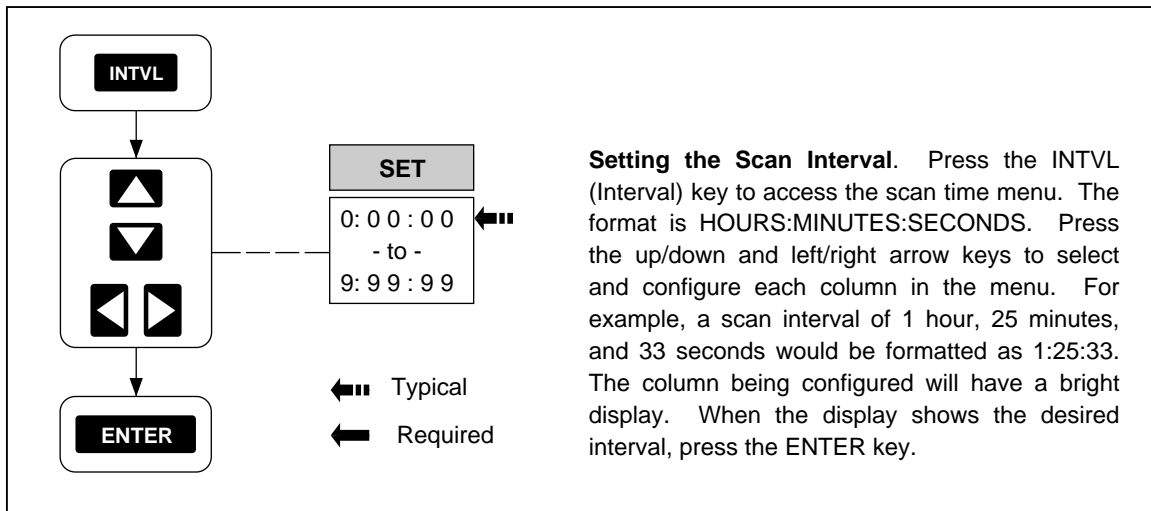
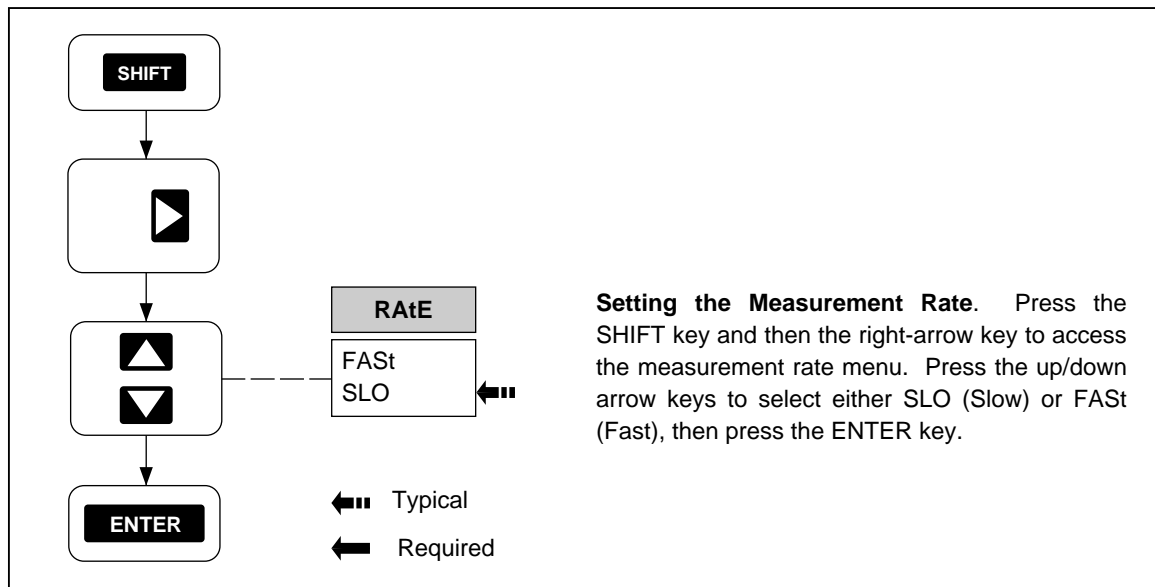

Figure 2-11. Setting the Scan Interval
Figure 2-12. Setting the Measurement Rate
- Setting the Scan Interval [Default - 0:00:00 (Continuous)] (Figure 2-11)
- Setting the Measurement Rate [Default - Slow] (Figure 2-12)
Perform the procedure in Figure 2-11 to set the time between starts of measurement scans. In preparation, the instrument must be in the inactive mode (not scanning or monitoring). To exit at any time (changes not saved), press the **CANCEL** key. The scanning interval format is HOURS:MINUTES:SECONDS. The minimum is 0:00:00 (continuous scanning [default]); the maximum is 9:99:99 (9 hours, 99 minutes, 99 seconds). The scan interval is divided into two portions: the measurement interval when measurements are actually taken, and the time-out interval that completes the overall scan duration. For example, if 10 channels can be measured in 8 seconds, and the scanning interval is set for 30 seconds, the first 8 seconds are used for measurement, while the remaining 22 seconds are used to time out. If the scanning interval is set to less than the measurement rate, the effect is continuous scanning. For example, if 10 channels can be measured in 8 seconds and the scanning interval is set for 5 seconds, scanning is continuous. To speed up the measurement rate, refer to Figure 2-12.
Perform the procedure in Figure 2-12 to set a fast or slow [default] measurement rate. The measurement rate affects the time required to scan the configured channels. However, the fast mode sacrifices one digit of measurement resolution. For example, a temperature reading of 22.4°C in the slow mode would become 22°C in the fast mode, or 27.858V dc in the slow mode would become 27.86 V dc in the fast mode. The fast mode is normally used to capture rapidly changing measurements or to speed up the measurement portion of the scan interval.